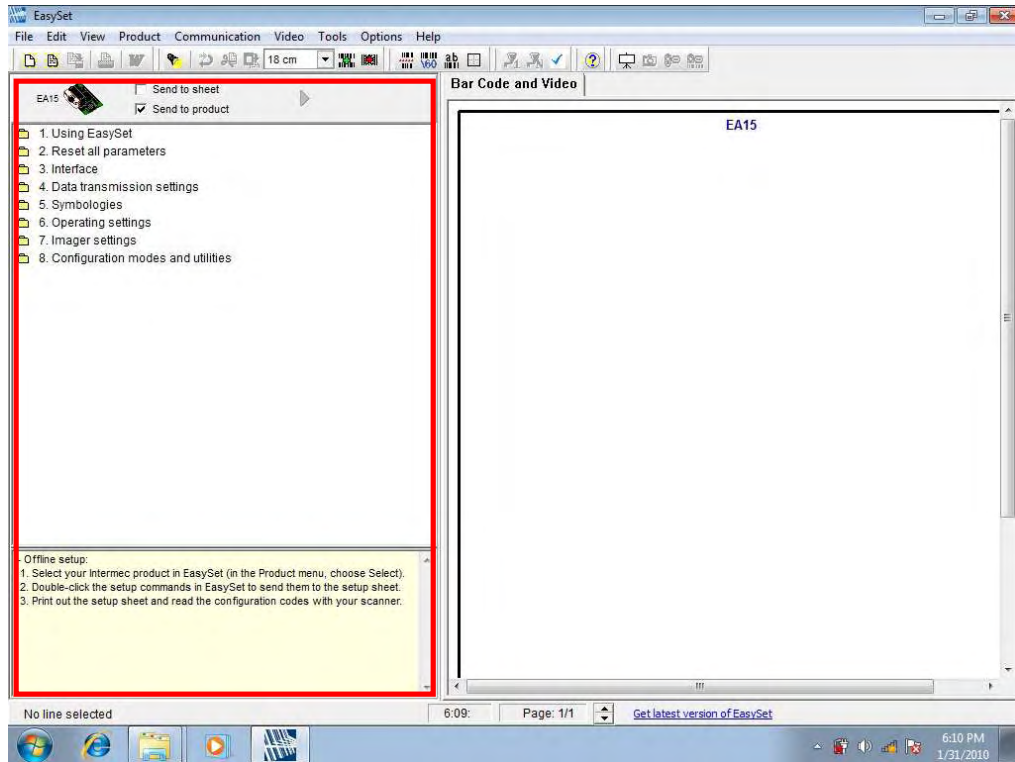

Figure 3-35: Barcode Parameters
Step 1: The left side of the EasySet window (**Figure 3-35**) displays all parameters that can be configured.